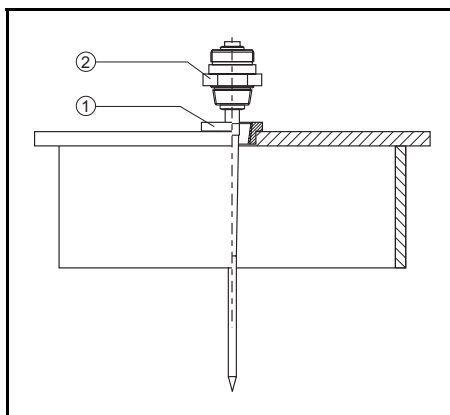

Figure 7.7 Installing the RoD antenna
- 2) Insert and screw the antenna into the socket (1).
- 3) Lock the antenna with the locking nut (2). Refer to figure 7.7.
A shark ring (1) should be placed between flange and strip (see figure 7.7).